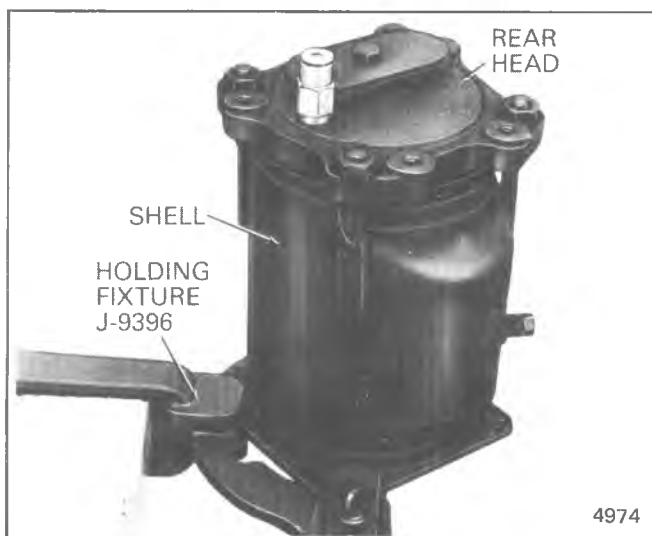

Fig. 1D-29 A-6 Compressor Installed in Holding Fixture
3. Invert compressor and Holding Fixture J 9396, with front end of compressor shaft now facing downward (Fig. 1D-29).